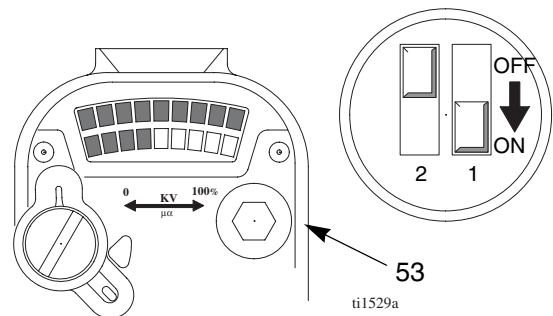

Fig. 15. Low Voltage Adjustment Switches
2. Remove the LO VOLTAGE adjustment plug (53). Set the desired voltage, using a small screwdriver to slide switches 1 and 2 ON or OFF, according to Table 4 . Also see FIG. 15..